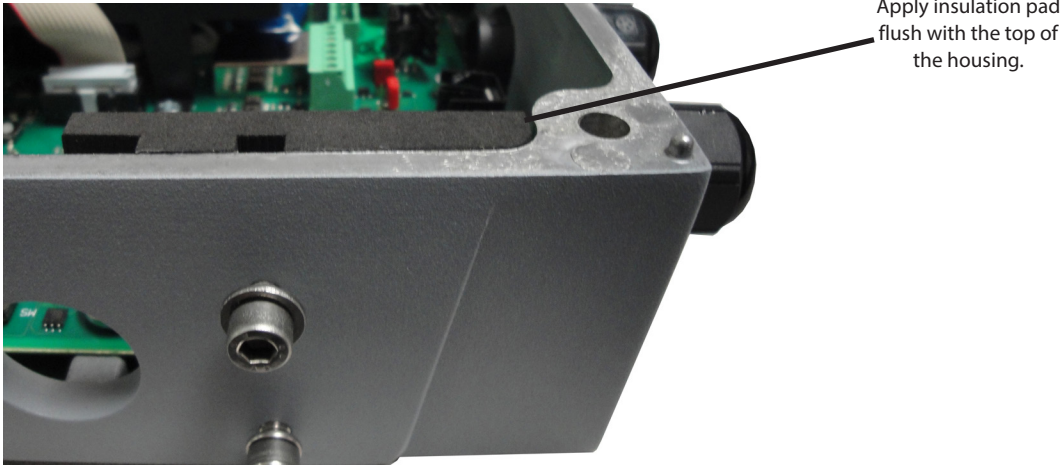

Figure 3: Installing foam insulation pad
3. Prior to inserting the daughterboard, install the foam insulation pad as shown *Figure 3 on page 5*. Be sure to align the groove with the two screws attaching the detector or wall mount bracket to the enclosure. The primary purpose of this pad is to ensure the daughterboard is insulated from the enclosure wall. It is important to install this pad flush with the top of the enclosure wall.